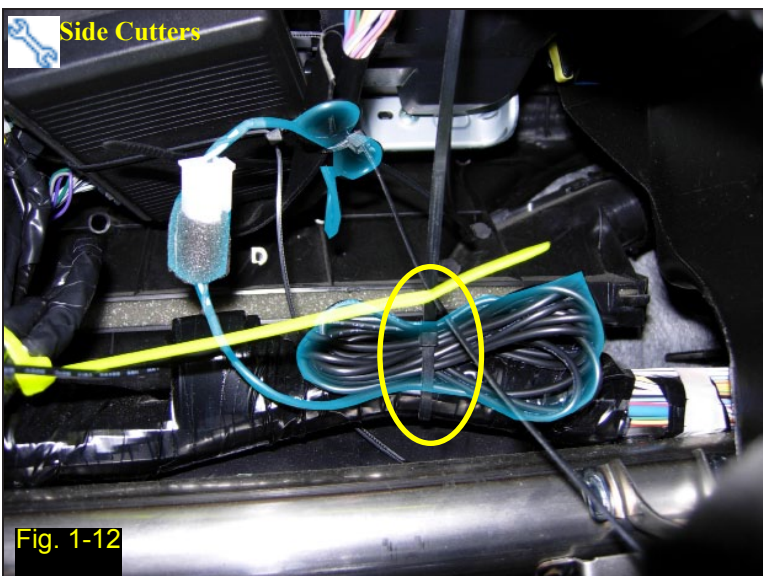

Fig. 1-12
3. Remove microphone slack and bundle excess cable and secure to an existing wire loom with a wire tie (Fig. 1-12).